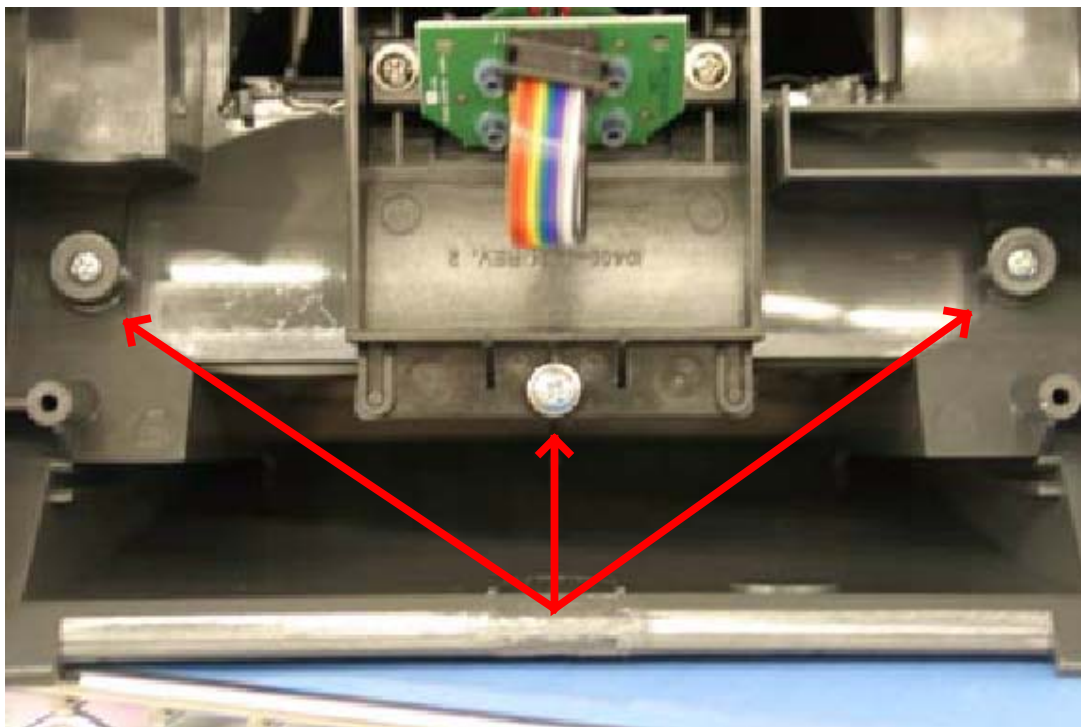

Figure 3
11. Remove the 3 platen mounting screws and set aside taking note as to which screw goes where. See figure 3